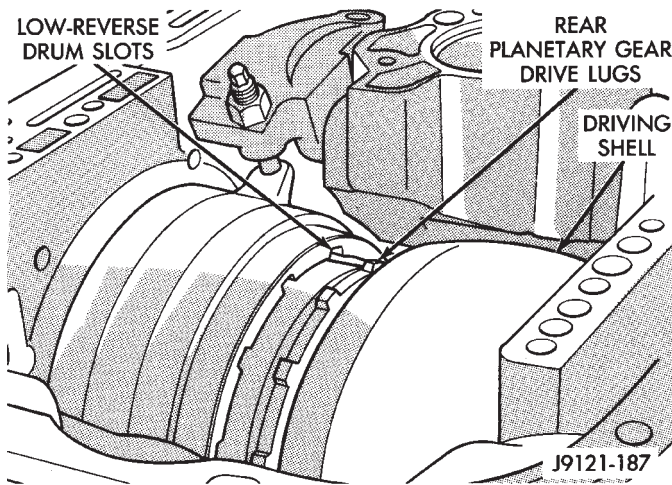

Fig. 135 Aligning/Seating Rear Planetary In Low-Reverse Drum
(3) Align drive lugs on rear planetary gear with slots in low-reverse drum (Fig. 135). Then seat planetary assembly in drum.